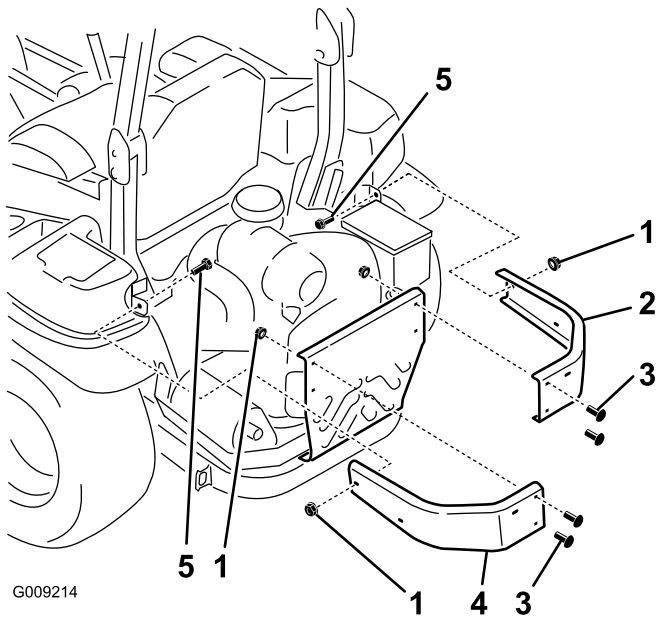

Figure 4
1. Remove the nuts and bolts holding the side bumpers to the machine (Figure 4).
2. Install the new left and right side bumpers with 2 carriage bolts (3/8 x 1-1/4 inches), 4 previously removed carriage bolts, and 6 flange nuts (3/8 inch) as shown in Figure 4.